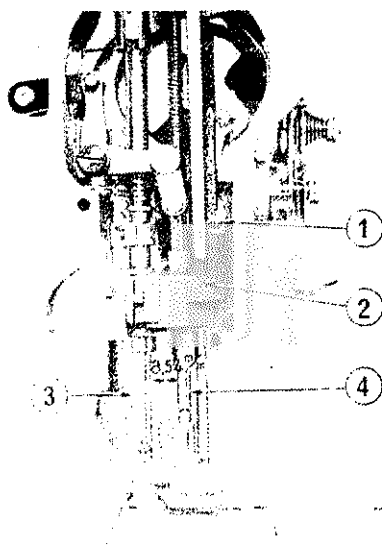

Fig. 17
The relative position of the needle bar frame (Fig. 17 (1)) with that of the presser bar (Fig. 17 (2)) is correct when, with the stitch length at "0", the clearance between the presser bar and the working foot bar (Fig. 17 (3)) comes to 8.54 mm ($21/64''$). (Fig. 17)
To adjust the height of the needle bar, loosen the needle bar clamping screw (Fig. 17 1) and move the needle bar up and down. When proper adjustment is made, firmly re-tighten the clamping screw.